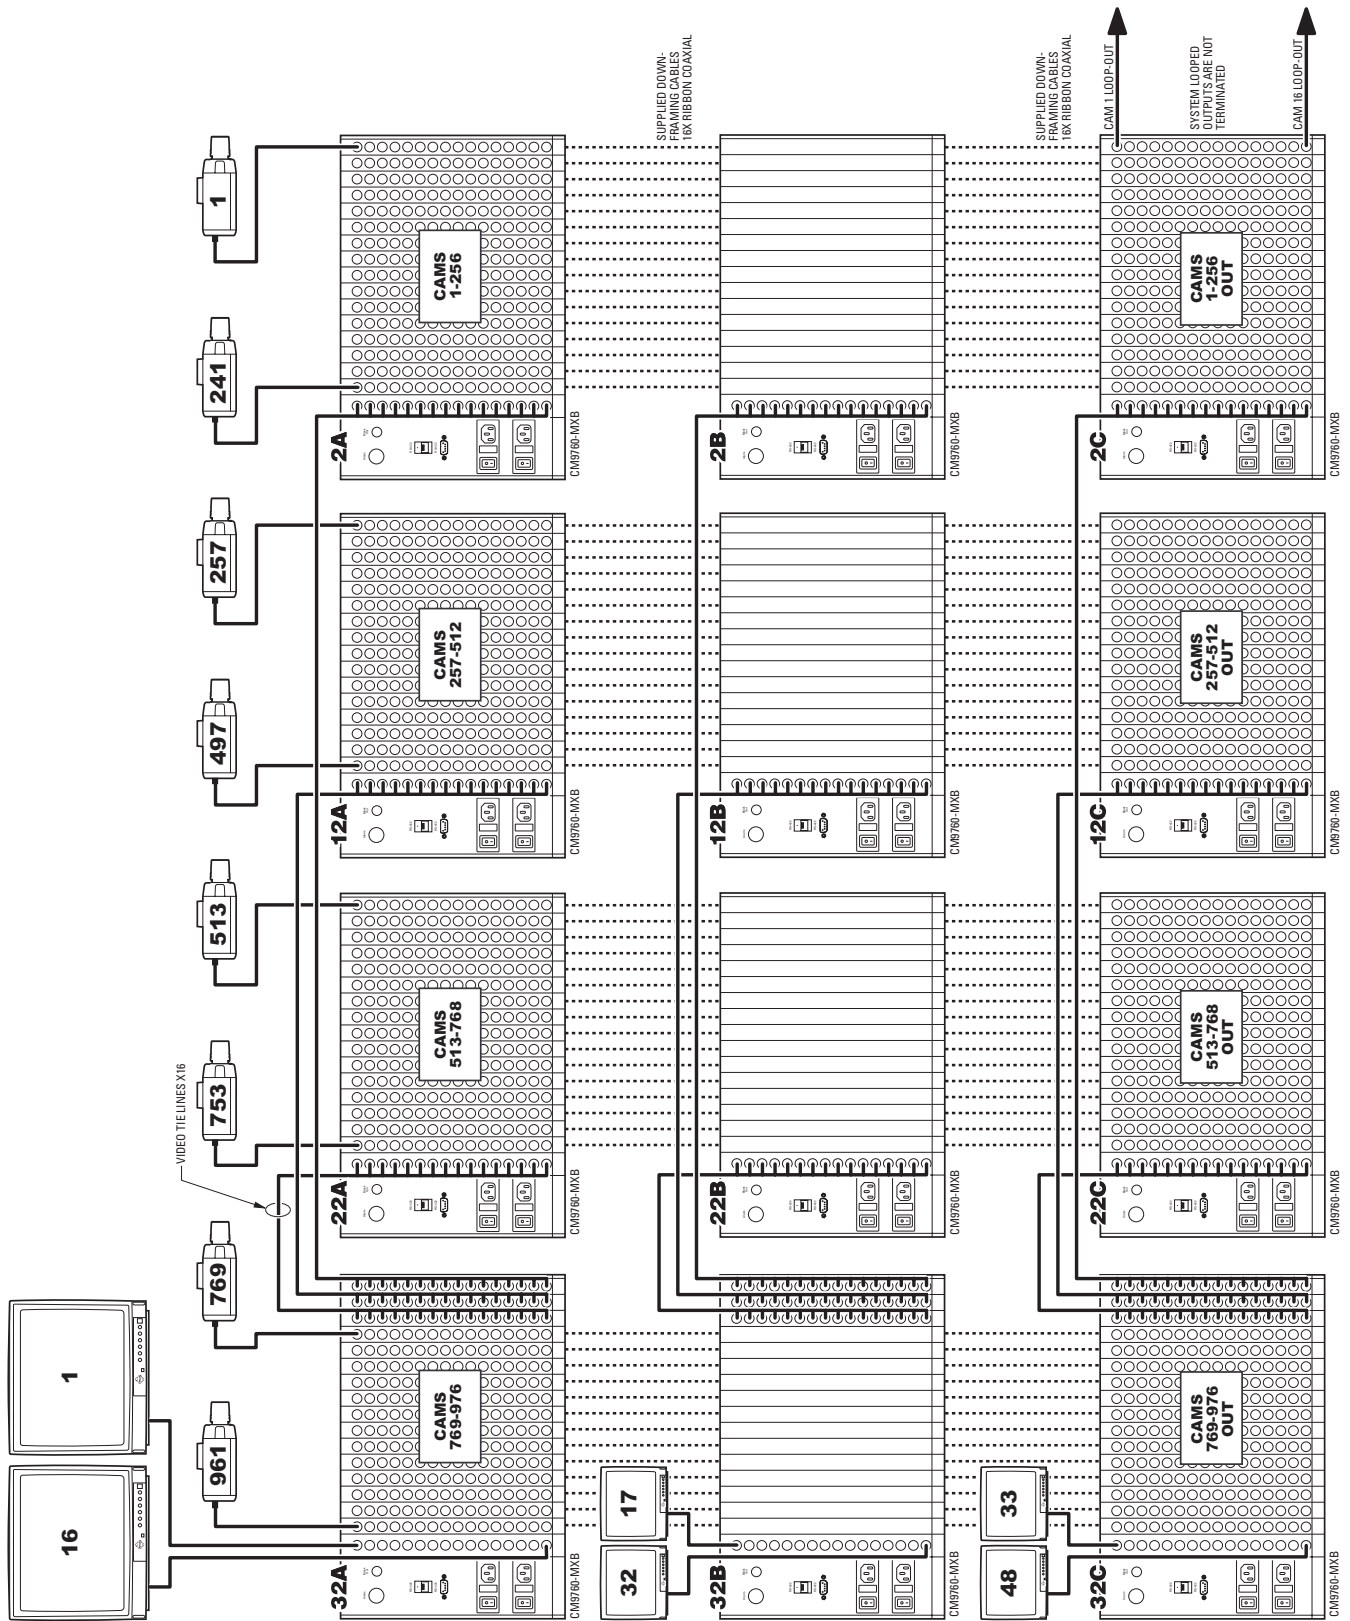

Figure 82. Sideframing and Downframing: 976 x 48 Configuration, Looping
- 976 x 48, looping (refer to Figure 82)